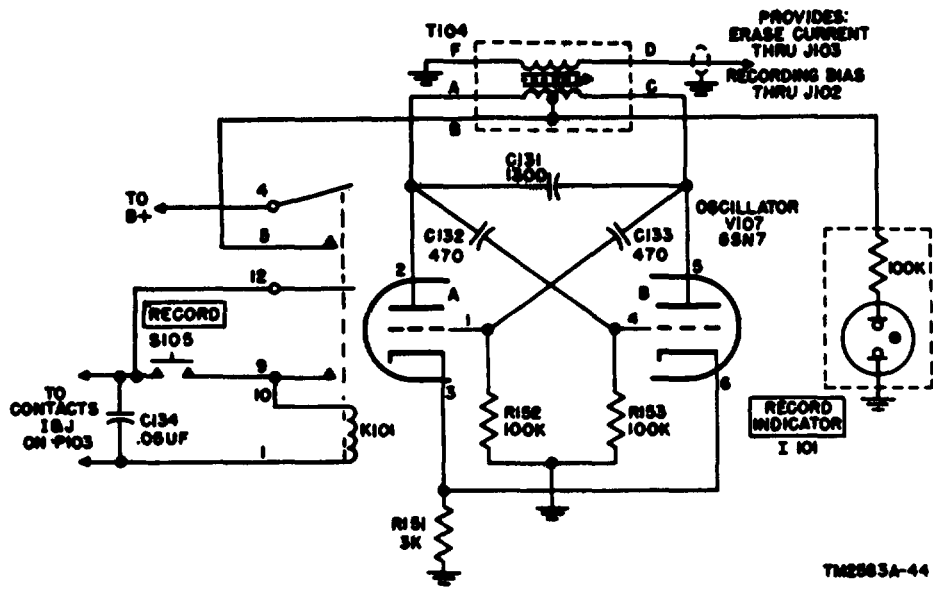

Figure 24. Erase-oscillator circuit, simplified schematic diagram.
### 53. Recording Amplifier and Erase-oscillator circuit (fig. 24 and 49)
*h. Erase-oscillator V107* (fig. 24). The 65-kc push-pull oscillator supplies recording bias and erase currents to the recorder and erase heads of the soundhead assembly. The amount of erase current (fed through connector J103) is determined by the setting of capacitor C115. The level of recording bias (fed through connector J102) is determined by the setting of resistor R125 and capacitor C114. The frequency of oscillation is determined by the tank circuit consisting of capacitor C131 and the primary of oscillator transformer T104. With plate voltage applied through the primary of transformer T104 and contacts 4 and 5 of relay K101, tube V107A conducts, and voltages of the resonant frequency (65 kc) of the tank are developed and fed to the control grid of tube V107B through capacitor C132. Tube V107B conducts and voltages of the resonant frequency of the tank are coupled to the control grid of tube V107A through capacitor C133. The capacitor coupled feed-back voltage maintains the oscillations in both tubes. At the positive peaks of the feed-back voltage to the con-